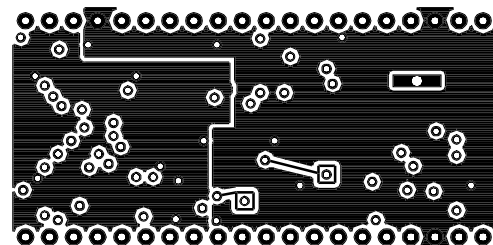

Figure 7. Ground Layer ( Not to scale ).
- The next layer is used for both digital and analog ground planes and shown in figure 7.